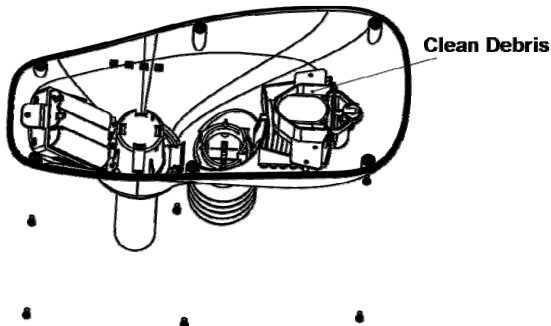

Figure 42
3. Clean any debris and spider webs, as shown in Figure 42.